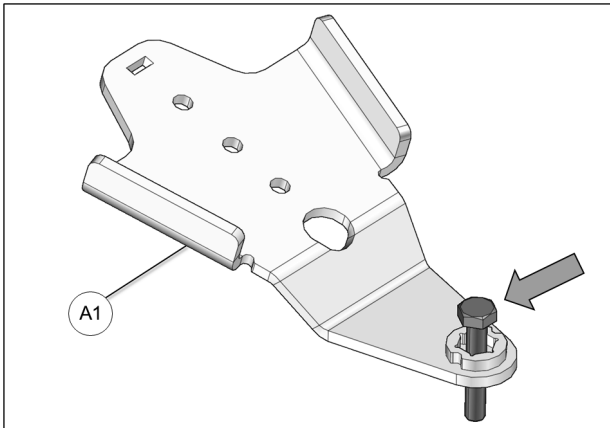

Fig. 14
4. Insert bolt in rear anchor bracket (A1) as shown in Fig. 14